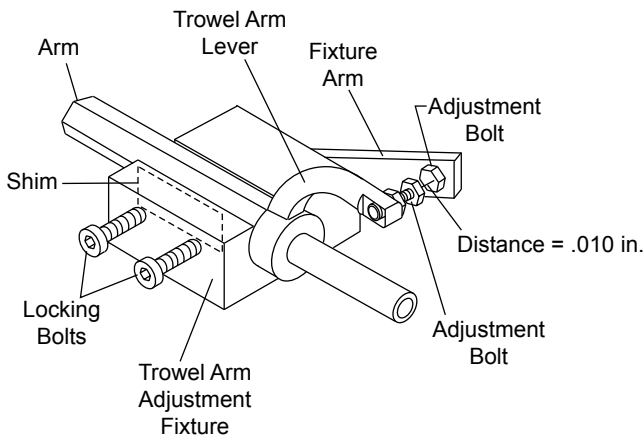

Figure 35. Trowel Arm Adjustment Fixture Components
3. Shown in Figure 35 is the adjustment fixture with a trowel arm inserted. As each trowel arm is locked into the fixture, the arm bolt is adjusted to where it contacts a stop on the fixture. This will consistently adjust all of the trowel arms, keeping the finisher as flat and evenly pitched as possible.
4. Unscrew the locking bolts on the adjustment tool and place the trowel arm into the fixture channel as shown in Figure 35. A thin shim may be required to cover the blade holes on the trowel arm. Make sure to align the trowel adjustment bolt with the fixture adjustment bolt.
6. Adjust the bolt "distance" shown in Figure 35 to match one of the arms. The other arms will be adjusted to match this distance.